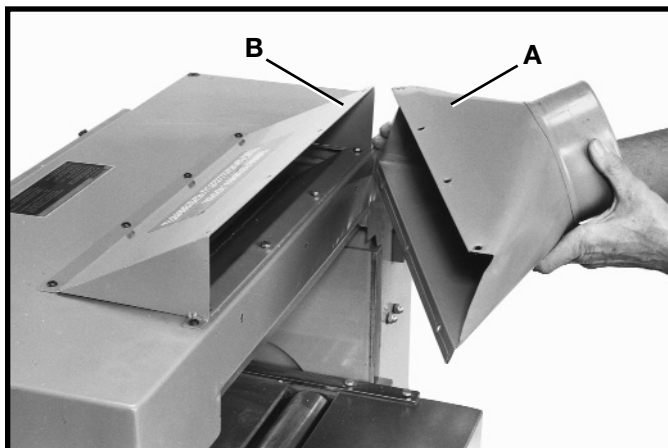
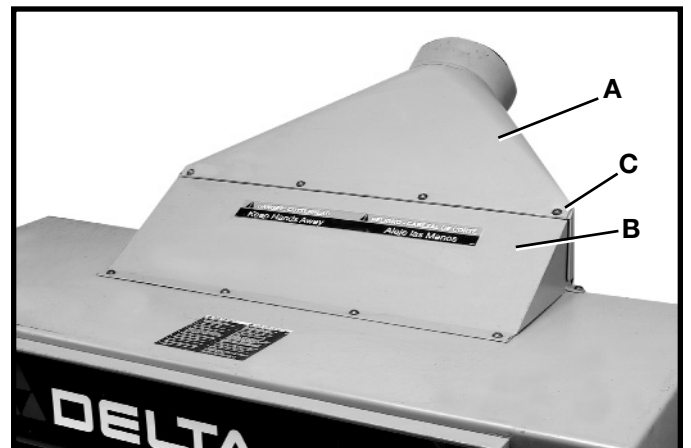

Fig. 8
Fig. 9
Position dust hood (A) Fig. 8, against the rear of the machine and on top of cutterhead guard (B). Align the holes and fasten the dust hood (A) Fig. 9, to the cutterhead guard (B) using seven 12mm button head screws (C) and flat washers, four of which are shown.